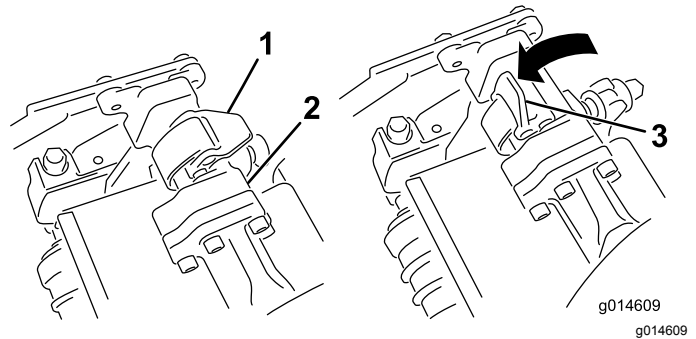
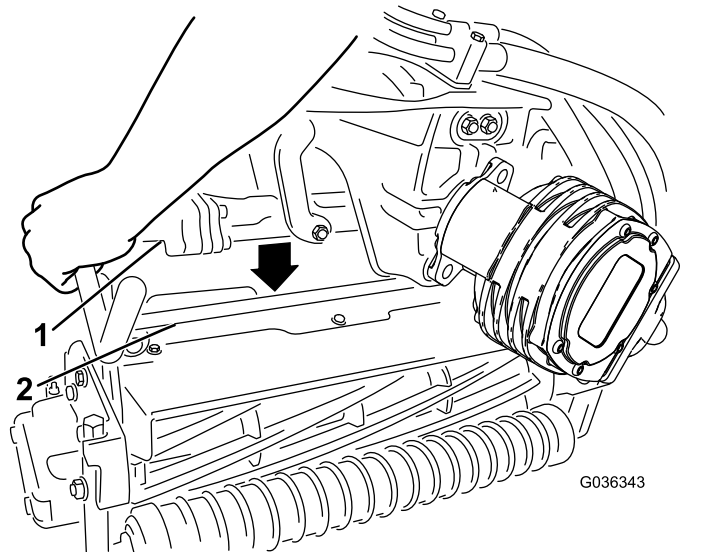

Figure 50
Figure 51
4. With the latches on the suspension-arm bar pointing up (i.e., open) (Figure 50), push the suspension arm down so that the bar fits over the bar across the top of the cutting unit (Figure 51).
- Close the latches down and around the cutting-unit bar and lock them in place (Figure 50).
5. Open the latches on the suspension-arm bar of the cutting unit you are removing (Figure 50).